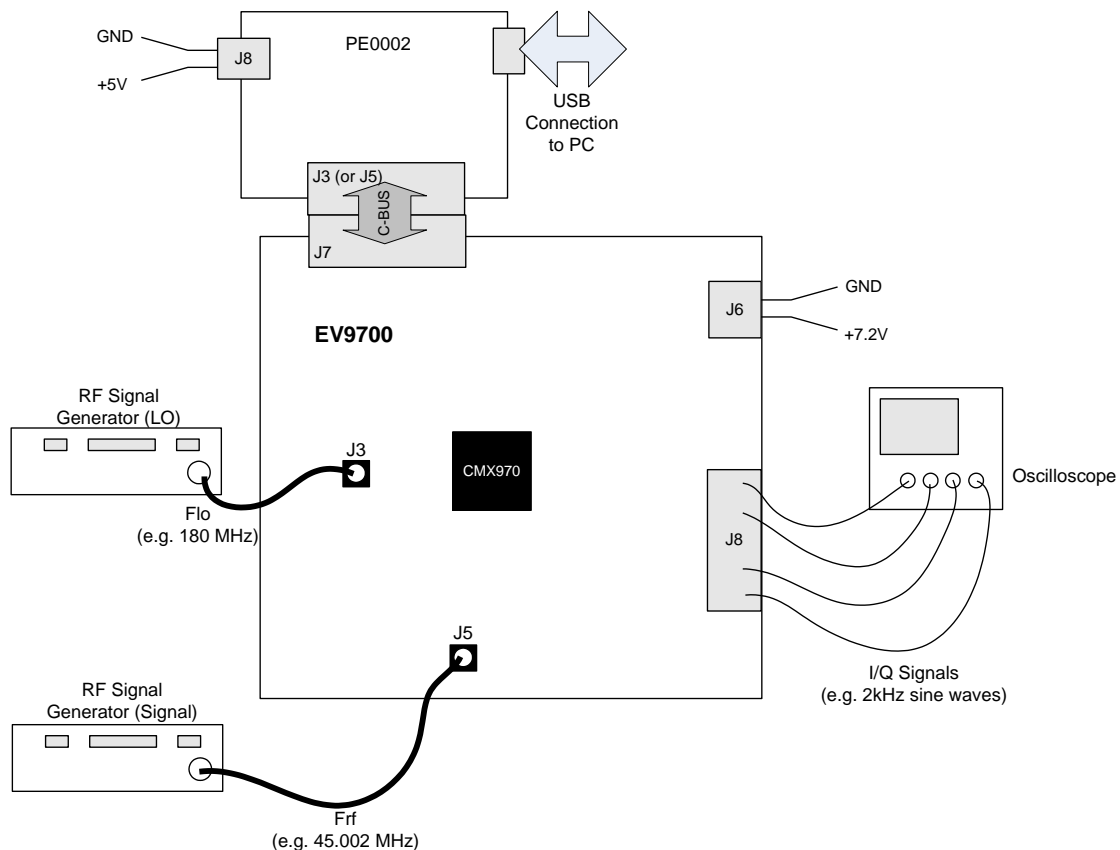

Figure 2 Typical Connections for EV9700
An example of typical connections to the EV9700 is shown in Figure 2. Perform the following steps in sequence:
1. Connect test leads as shown in Figure 2, except the power to J6.
2. Connect a controller to C-BUS interface J7 (PE0002 can be used – see Figure 2. Note: J3 or J5 can be used on PE0002, but ensure that the correct C-BUS port is selected when programming data).